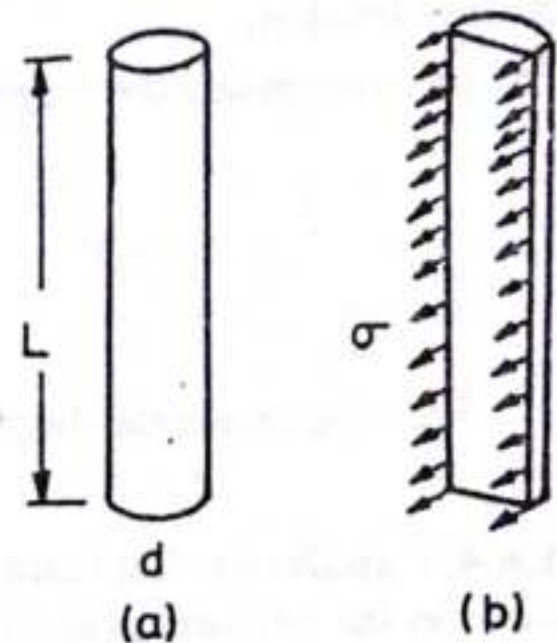

Fig. 1.12. Forces on liquid jet.
**1.6.3. Surface Tension on a Liquid Jet.** Consider a liquid jet of diameter 'd' and length 'L' as shown in Fig. 1.12.